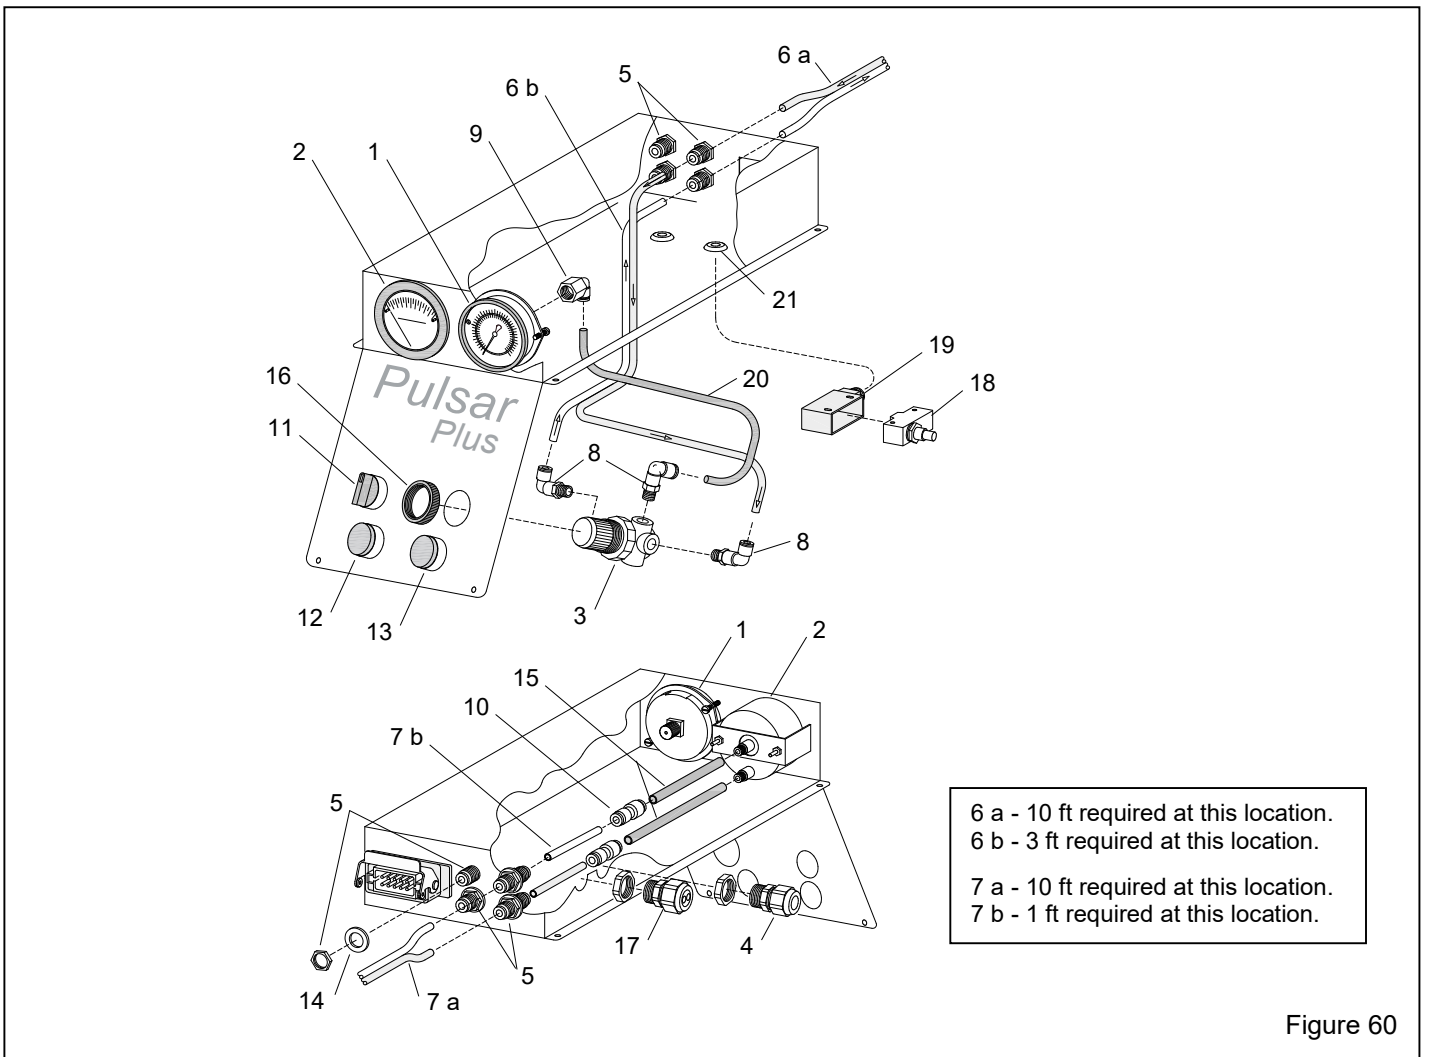

Figure 60
10.3 Cabinet Control Console Assembly – Figure 60